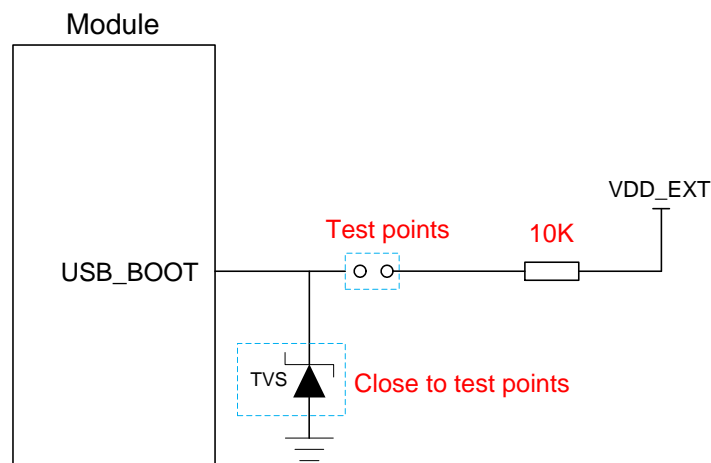

Figure 24: Reference Design of USB_BOOT Interface
3. When using MCU to control the module entering emergency download mode, follow the above timing sequence. Connecting the test points as shown in **Figure 24** can manually force the module into download mode.